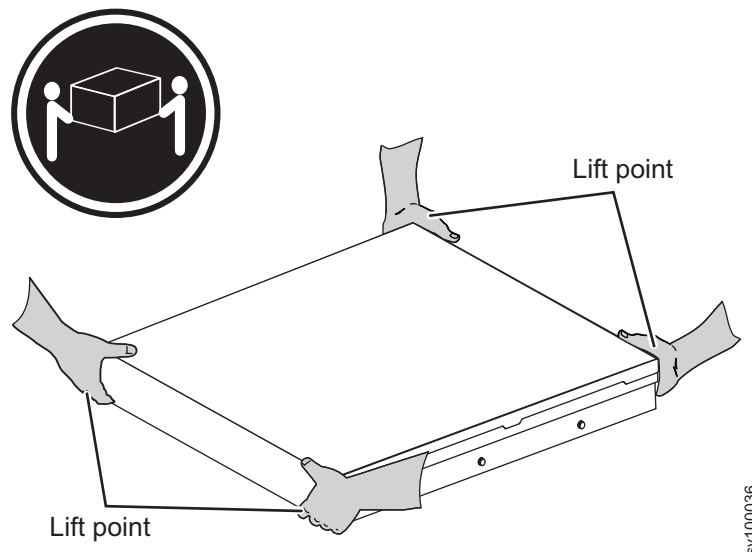

Figure 44. Lifting the 2145-SV1 node from the rack
To remove the SAN Volume Controller 2145-SV1 node from the rack, complete these steps. Ensure that you have two people when you lift the server; position their hands as shown in Figure 44 on page 58.
5. Lift the node, as shown in Figure 44, and place it on a sturdy surface.